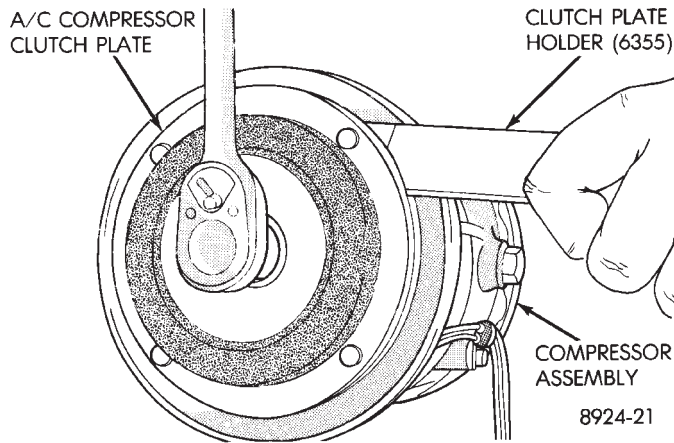

Fig. 3 Remove or Install Front Plate Retaining Nut
(1) Remove clutch retaining center nut by using CLUTCH PLATE HOLDER (6355) (Fig. 3).